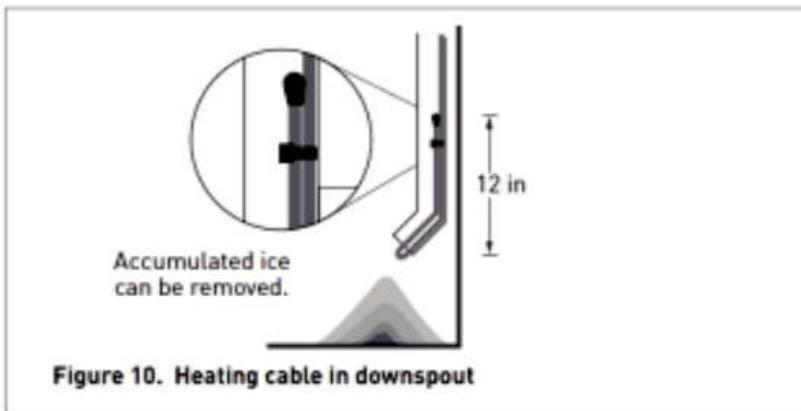

Figure 10. Heating cable in downspout
- Run heating cable along gutters and into downspouts, ending below the freezing level. Permanent attachment of the cable to the gutter bottom is not necessary. Loop the heating cable in downspouts. Do not leave the end of the in air at the end of the downspout as shown in Figure 10.